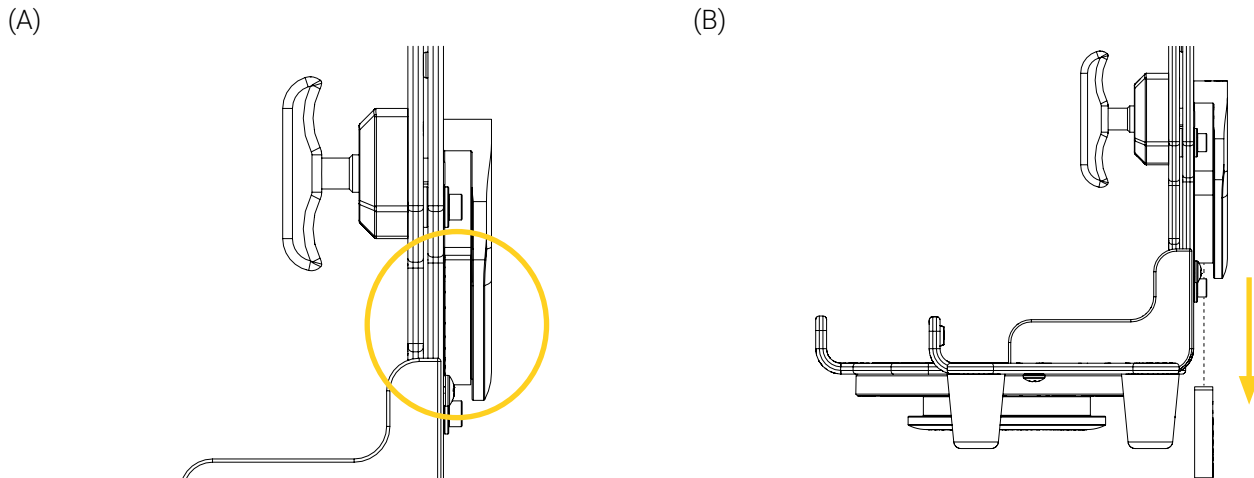

Figure 21: Removing the damaged silicone strip
2. Remove the damaged silicone strip located under the anti-rotation micro disc (Figure 21). The strip will **not** be reused. Refer to your established internal protocols and the environmental laws that apply to your jurisdiction for the proper disposal of the part.